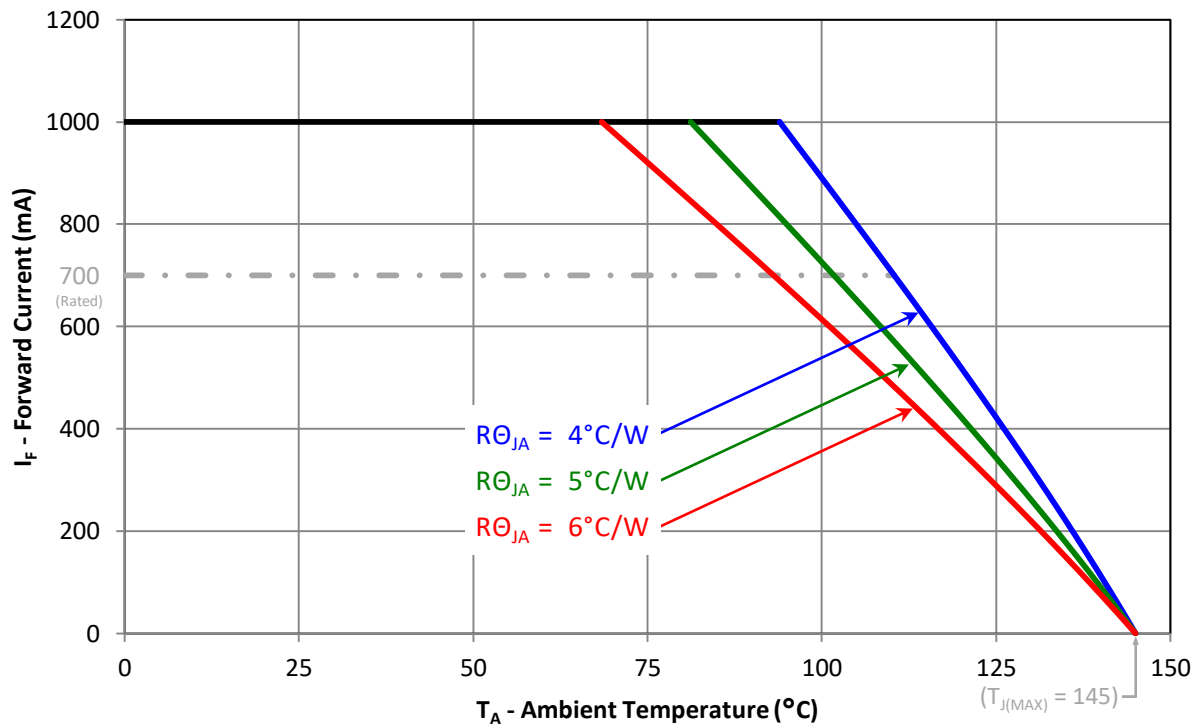

Figure 11: Maximum forward current vs. ambient temperature based on  $T_{J(\text{MAX})} = 145^\circ\text{C}$ .
- Maximum DC forward current (per die) is determined by the overall thermal resistance and ambient temperature. Follow the curves in Figure 11 for current derating.